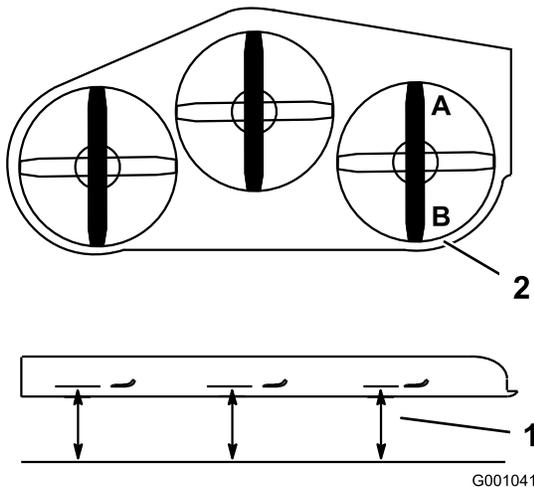

Figure 113
1. Position the **right** blade front-to-rear (Figure 113).
2. Measure the right blade at the **A** location, from a level surface to the cutting edge of the blade tip (Figure 113).
4. Measure the right blade at the **B** location, from a level surface to the cutting edge of the blade tip (Figure 113).
6. The mower blade should be 6 to 10 mm (1/4 to 3/8 inch) lower at position **A** than at position **B** (Figure 113). If it is not correct, proceed to the following steps.